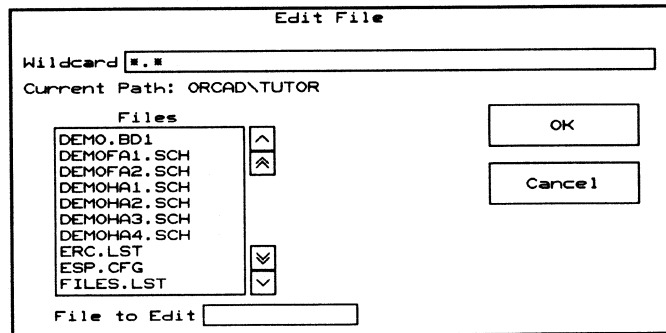

Figure 3-10. The **Edit File** screen.
1. Select **Edit File**, then select **Execute**. The **Edit File** screen displays (figure 3-10).